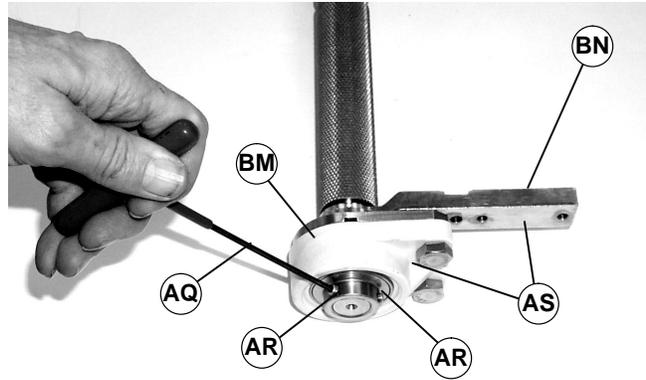

Figure 37
6. Using a 3mm hex key wrench (AQ of Figure 37), loosen two set screws (AR) on bearing and head plate assembly (AS).
**NOTE:** If bearings (BM of Figure 37) require removal from head plates (BN), see "Bearing Removal" on page 16.
6. Using a 3mm hex key wrench (AQ of Figure 37), tighten two set screws (AR) on each bearing and head plate assembly (AS).